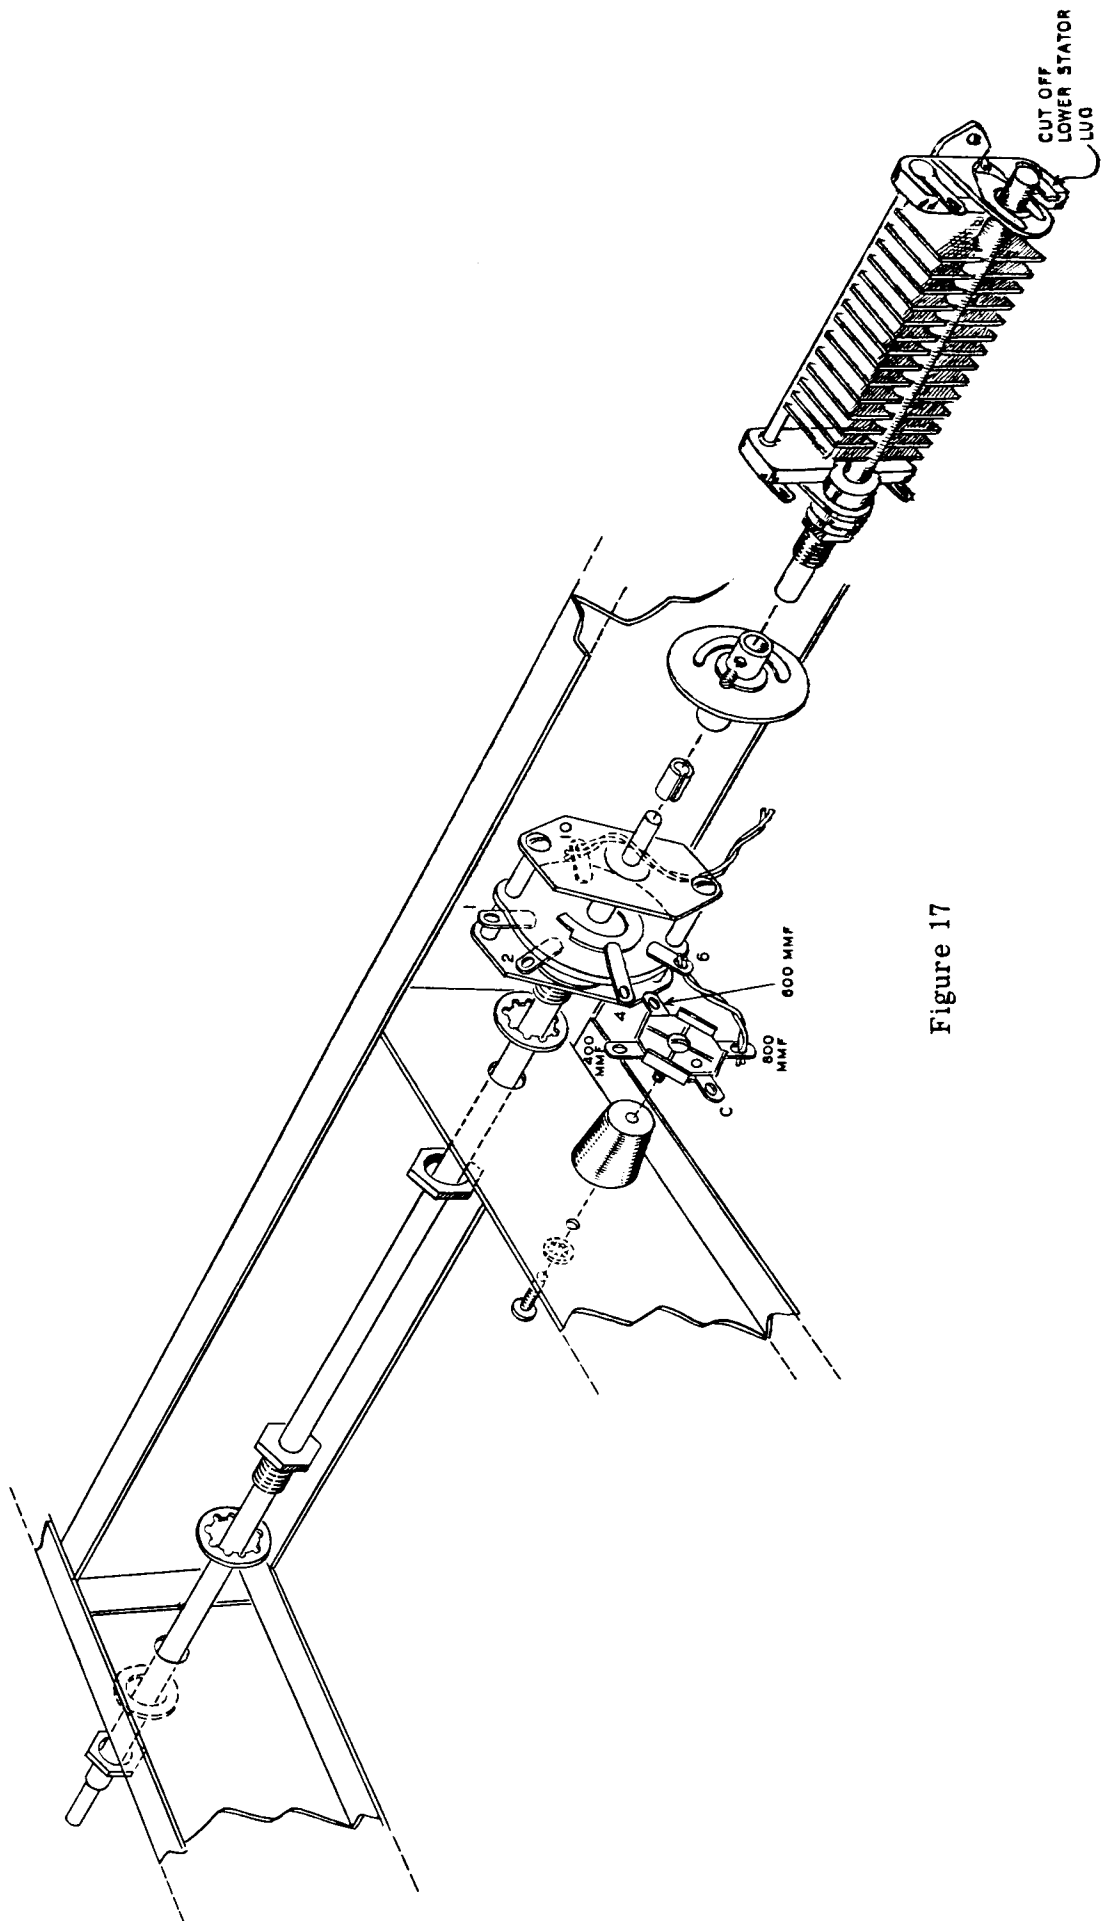

Figure 17
- () Refer to Figure 17 and identify the terminals of the loading switch. Connect a 3 1/2" length of the double conductor to terminal 10 of the switch (S). Leave the other end free and form as shown.
- () Connect a 1 3/4" length of double conductor to terminal 6 of the loading switch (S). Form as shown and leave the other end free.
- () Place a lockwasher on the loading switch shaft bushing and insert the shaft through the hole in the driver shield plate. Then place a nut, a 17/64 bushing and a lockwasher over the shaft as shown in Figure 17 and insert the shaft through the hole in the front chassis apron. Use a flat washer and nut on the front shaft bushing. Position the switch as shown and tighten the back bushing securely and the front bushing temporarily.
- () The wire coming from terminal 10 of the switch should now be connected to the ground lug at the silver ground strip (NS).
- () The wire coming from terminal 6 of this switch should now be connected to the 800 $\mu\mu\text{f}$ section of this capacitor (S) (the terminal pointing toward the chassis top plate).
- () Place an insulated coupler over the capacitor shaft and slip a split bushing into the other coupler hub. Do not tighten either hub set screw at this time. See Figure 17